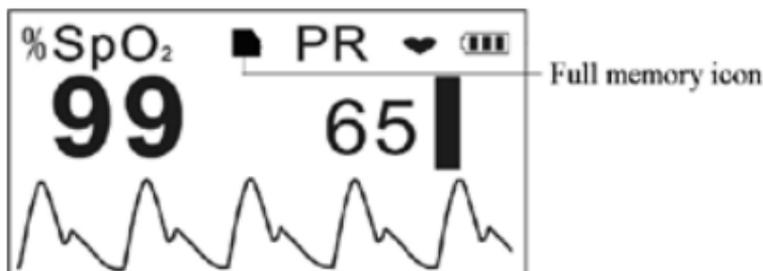

Figure 11 Memory Full
- During measuring, if the memory is full or the total number of the records is 1024 pieces, the earliest records will be overwritten and the icon "■" will appear on the screen for prompt, as shown in Figure 11.